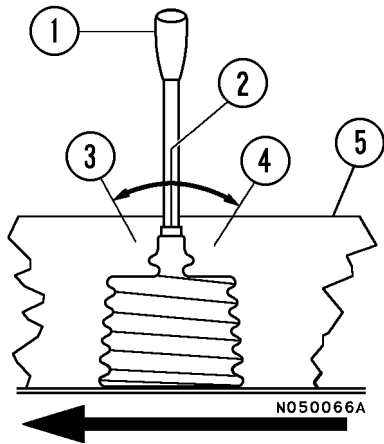

FIGURE 3-3. HOIST CONTROL VALVE
4. Pull the Hoist Control Lever (1, Figure 3-3) back to the "RAISE" position (4) and release lever.